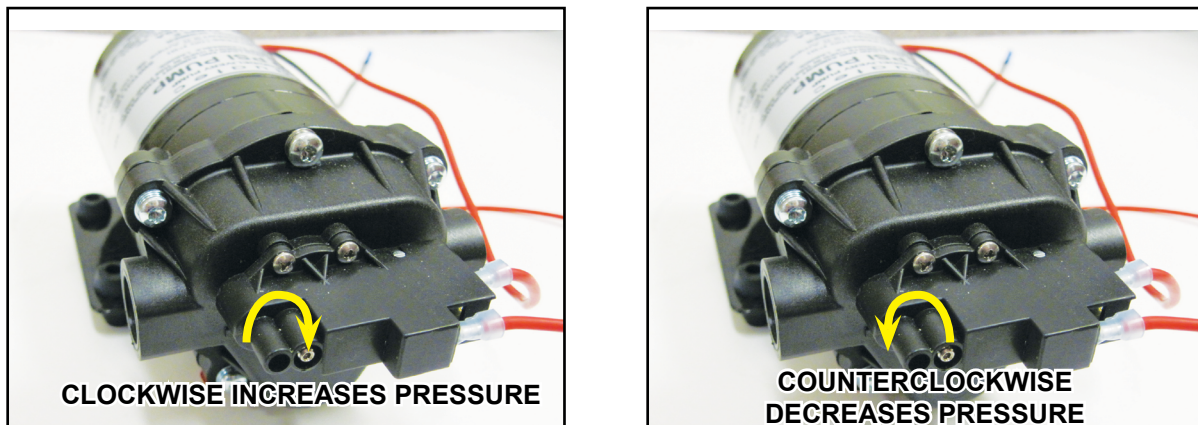

Figure 4-4. Location of Pump's Hex Screw
The pump pressure setting adjustment is performed by turning the hex screw, which is close to the center of the pump head, with a hex L-key, provided in the Flex Installation Kit - (see Figure 4-4).
3. With the pump still on, reconnect the solution hose onto the Flex unit (see Figure 4-4).